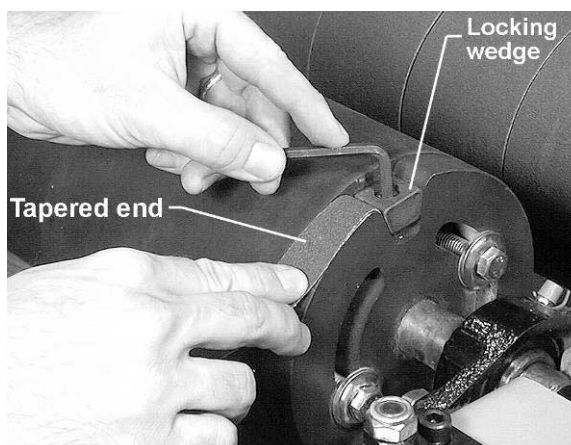

Figure 3
2. Remove the socket head cap screw and locking wedge (Fig. 3) from both ends of the drum.
5. Begin at the right end of the drum and tuck the tapered right end of the abrasive roll into the recess (Fig. 3). Place the locking wedge into the recess and tighten firmly with the socket head cap screw.